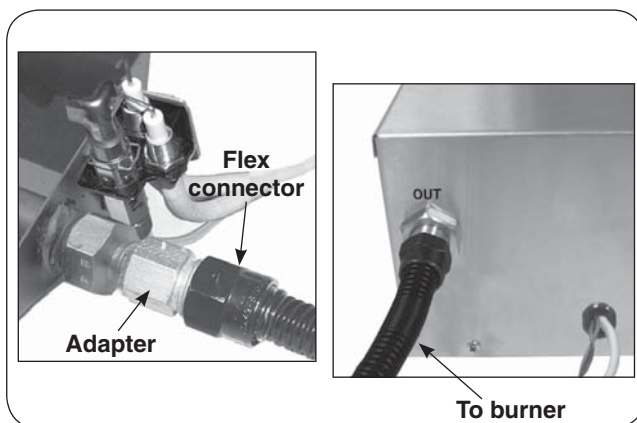

Fig. 8-2
4. **Be sure gas to the fireplace is off.** Connect a 1/2" flex connector (not included) to the fuel injector or air mixer on the burner and the **OUT** adapter found on the rear of the valve system. See Fig. 8-2. Be sure all connections are tight.